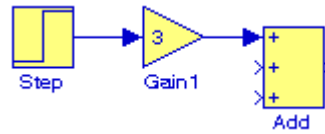

Figure B.10. File `Equation_1_26` with added gain block
- Next, we need to add a three-input adder. The adder block appears on the right side of the **Simulink Library Browser** under **Math Operations**. We select it, and we drag it into the `Equation_1_26` model window. We double click it, and on the **Function Block Parameters** window which appears, we specify 3 inputs. We then connect the output of the of the gain block to the first input of the adder block as shown in Figure B.10.